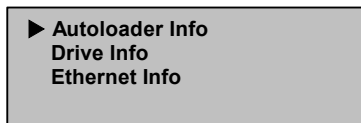

Figure 62: Select Autoloader Info
3. On the Status submenu, scroll to Autoloader Info. (See Figure 62.)
3. On the Status submenu, scroll to Drive Info. (See Figure 62.)